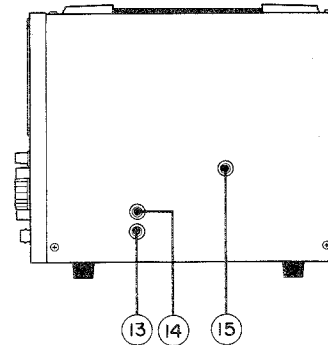

Figure 3 – Preset Controls on Side Panel.
3) Preset Controls on Side Panel (see Figure 3)